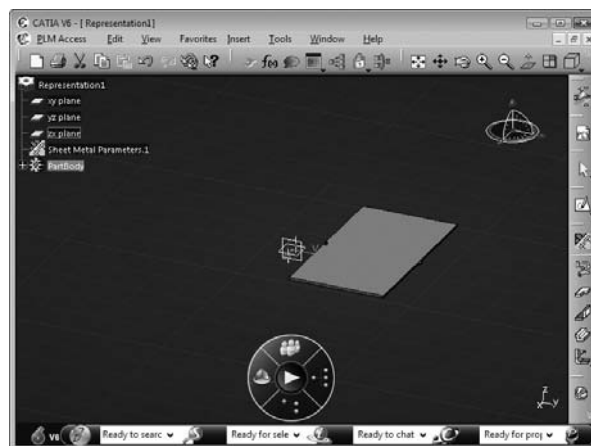

FIGURE 6.52
2. *Create* a base wall and then *draw* a sketch on the base wall using the Sketcher workbench. In our case, we have drawn a line on the base wall, as shown in **Figure 6.52**: